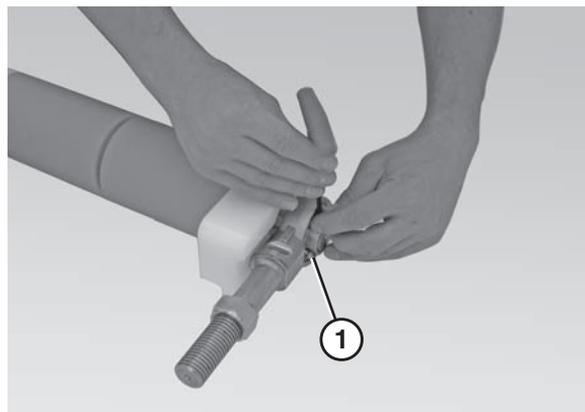

Figure 67
- Use a 4 mm hex wrench to loosen the bearing shaft assembly fasteners (Figure 67, item 1).